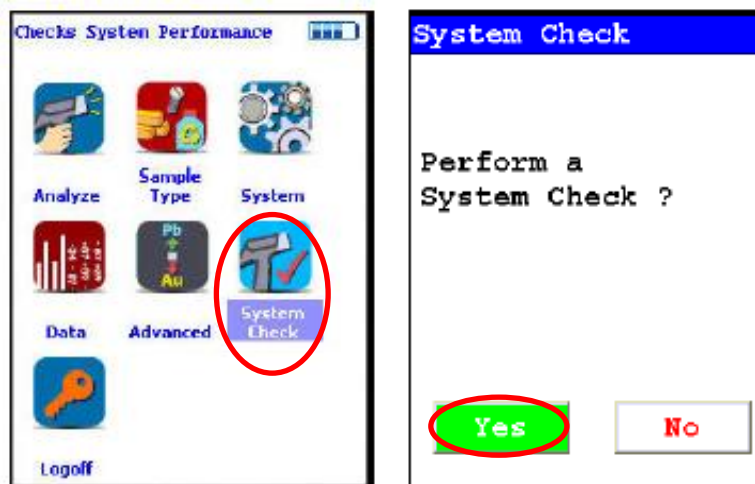

Figure 7: How to perform a system check.
- 1) Select the *System Check* icon on the *Main Menu* to perform a system check (Fig. 7). Do this once every working day, as part of your normal startup routine.